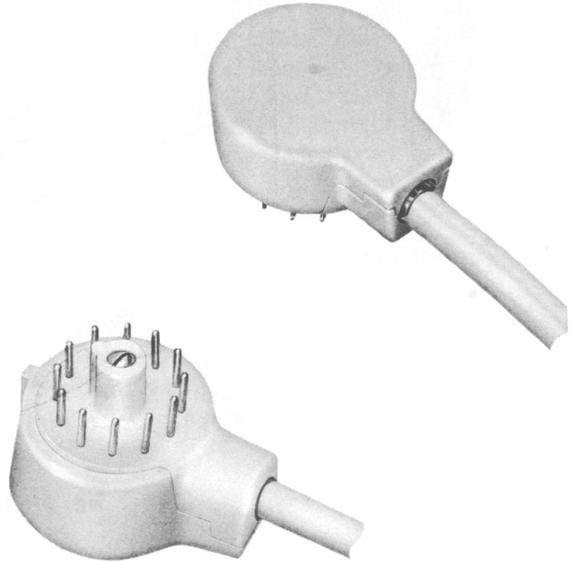

Fig. 4—504A Plug
2.05 The 504A plug (Fig. 4) is made in three pieces of molded plastic and is held together by one screw and a snap-fit in the neck. Contacts are numbered 1 through 12 and match numbering on 541A jack.